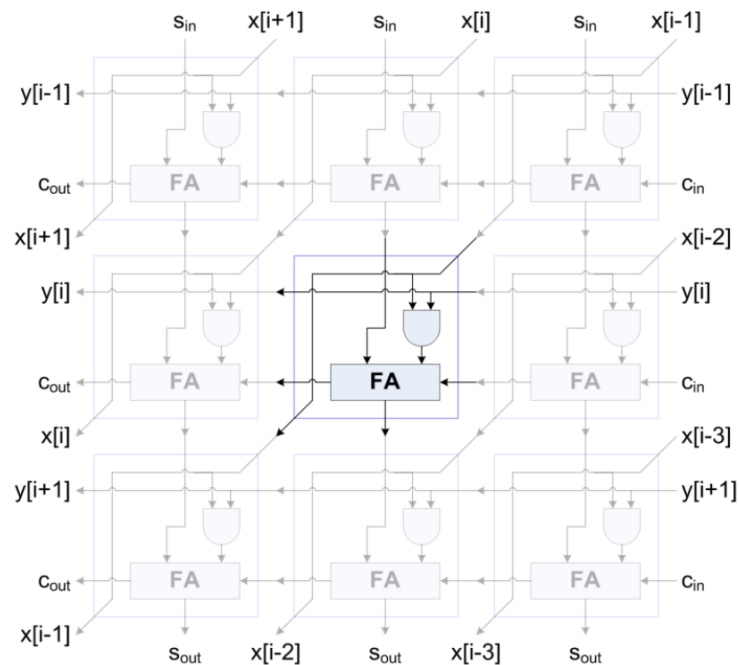

Figure 5: Block Multiplier
1. Write down your signed block multiplier circuit code to a new module called **BM**. Define the basic multiplier that shown bottom of Figure 5 in your MB module.